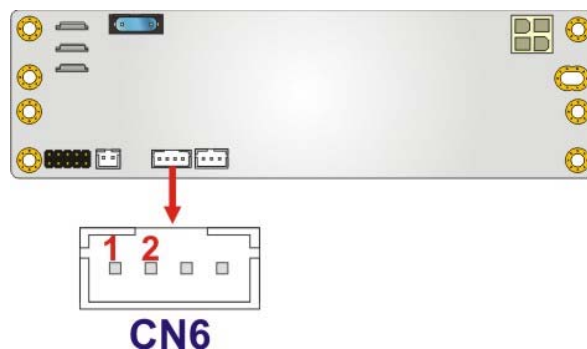

Figure 4-3: Battery Low LED Connector Location
- CN Location:** See **Figure 4-3**